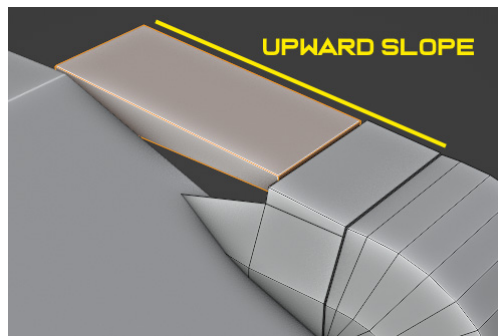

Figure 7.24 – A slope
9. Add a cube and use it to create a thin shape, as shown in *Figure 7.24*. Ensure that the edges follow a slope: